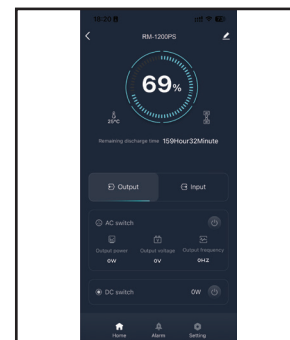

Figure 6
1. The app's "Home" page displays the device's battery information and the control and information for the AC/DC output switch. (See Figure 6)